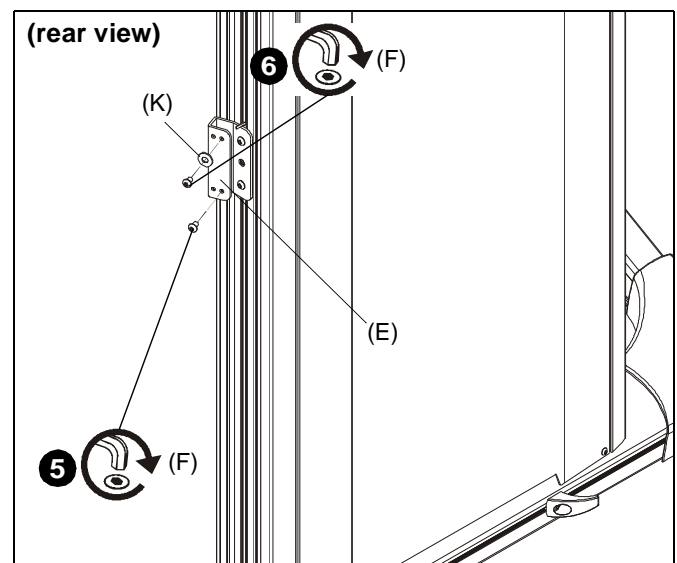

Figure 4
5. Loosely install 1/4-20 x 3/8" button head cap screw (F) into lower back hole on adapter bracket (E). (See Figure 4)
6. Loosely install 1/4-20 x 3/8" button head cap screw (F) through 1/4" washer (K) and into upper back hole on adapter bracket (E). (See Figure 4)